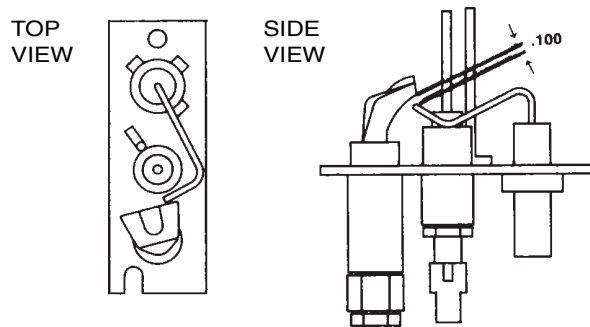

Figure 34. Pilot Assembly Spark Gap
4. Check the spark gap (see Figure 34), which should be maintained to 0.100 inch (2.5 mm).
- c. Verify that pilot spark gap (see **Figure 34**) is approximately 0.100 inch (2.5 mm).